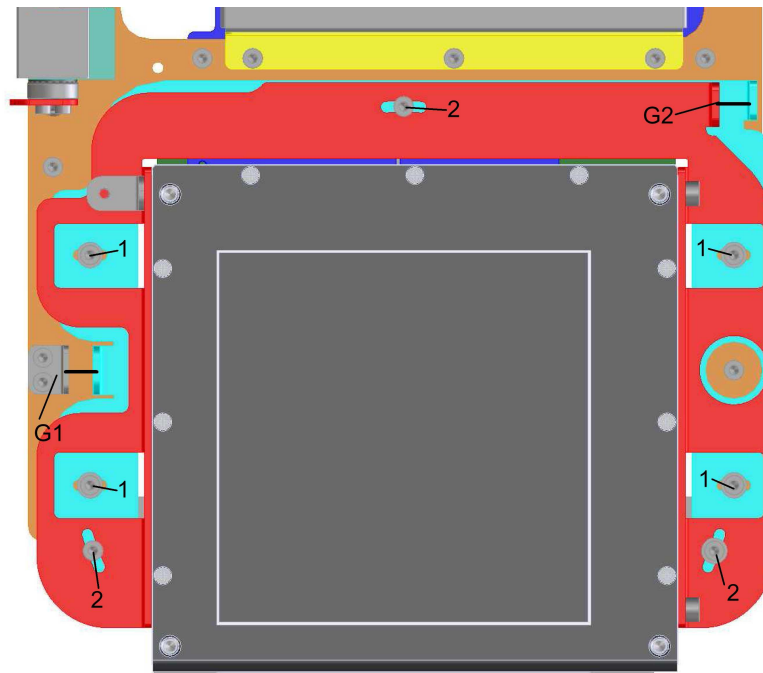

Figure 9-9
- In case the image is not parallel to the window, it is possible to move the digital sensor, aging on the screws "2" (Figure 9-9).
- In case the reference pins are not positioned in the center, it is necessary to move the digital sensor (screws "1" Figure 9-9).